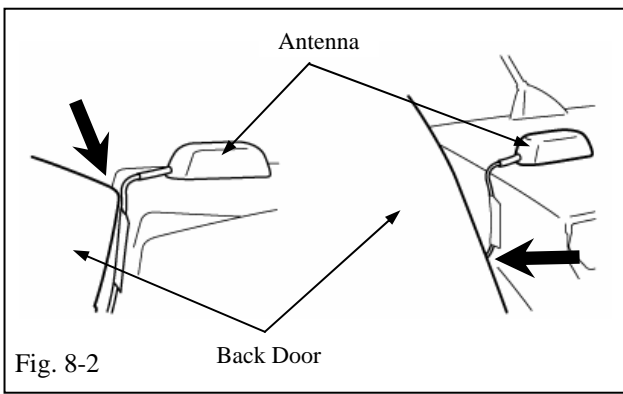

Fig. 8-2
- (c) Locate with sheet tape and a cord rail so the door does not contact or pinch the antenna cable. (details in Fig. 8-2)